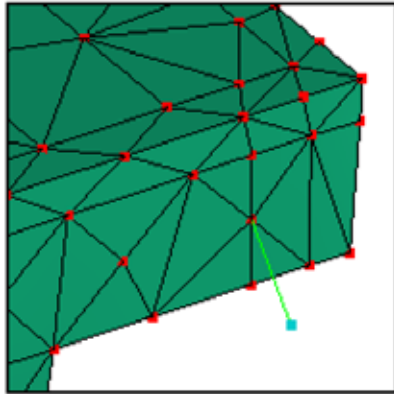

Figure 115: Gate curve created
- The curve should look like Figure 115.